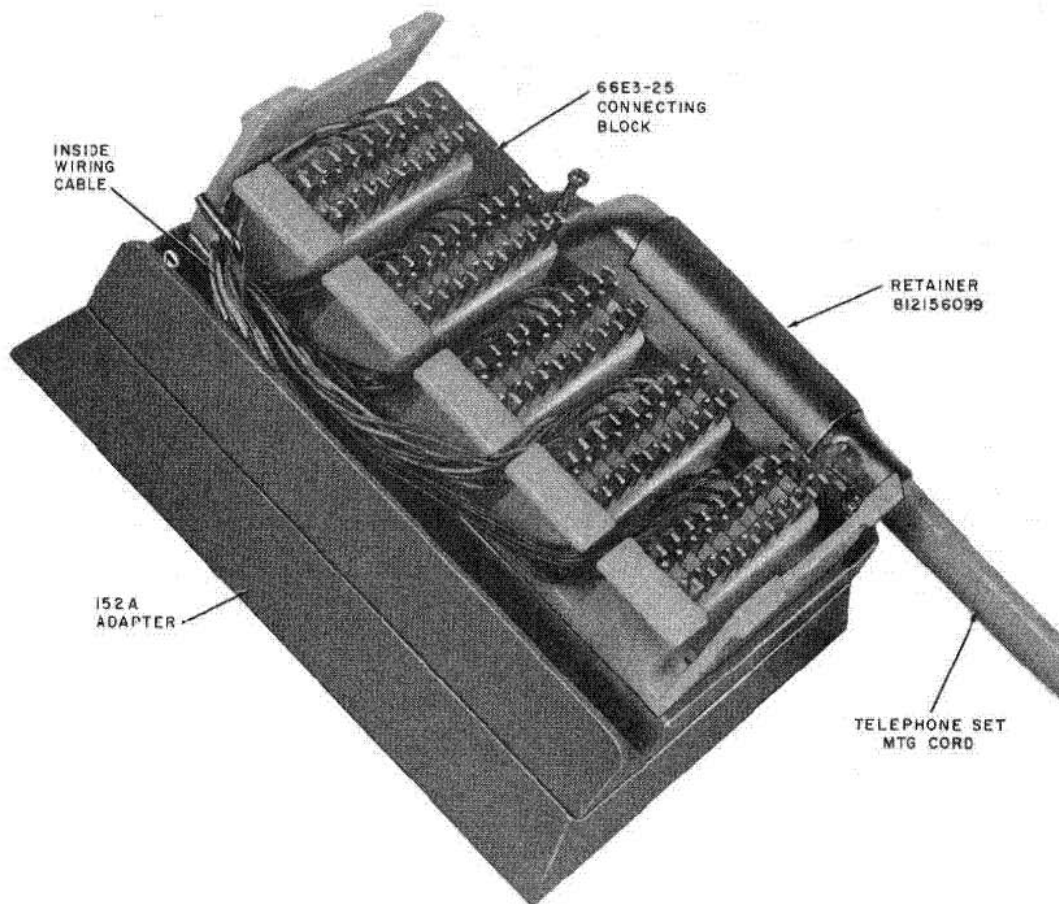

Fig. 4—66E3-25 Connecting Block Installed on 152A Mounting Adapter
**3.02** Install the 152A adapter on electrical outlet box or overfloor duct and mount the 66E3-25 connecting block to the adapter, using the mounting hardware provided (Fig. 4). Terminate the cable conductors on the connecting block pins (Fig. 6),